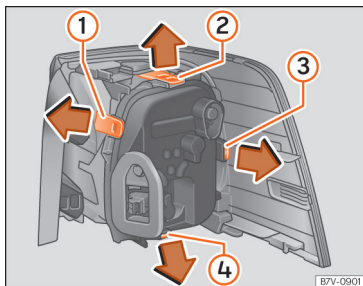

Fig. 71 Tail light unit in the bodywork: removing the bulb holder.
- To release the bulb holder, press on the attachment tabs » **Fig. 71 ①** to **④** in the direction of the arrow.